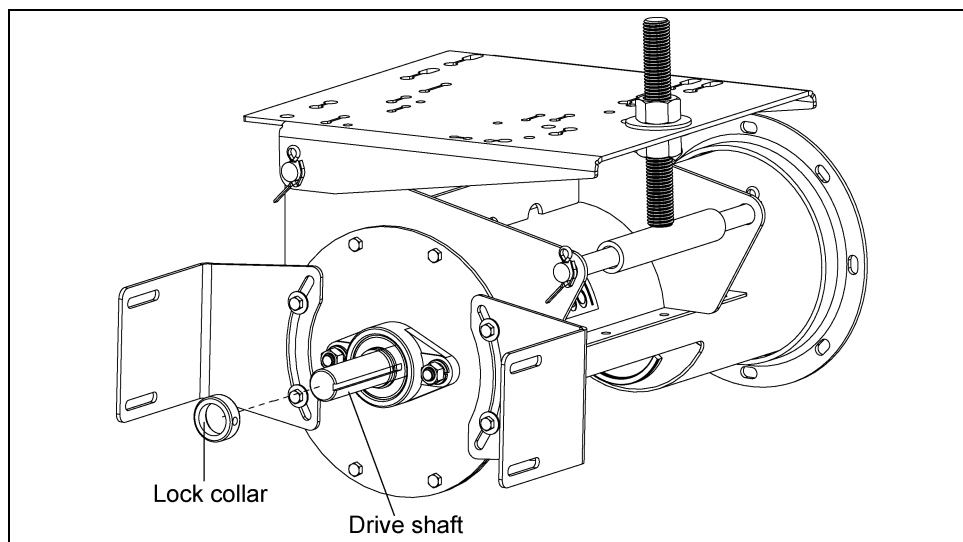

Figure 4J
1. Slide the lock collar over the drive shaft, positioning it against the bearing. Do not tighten the lock collar at this time as it will be tightened later in the assembly. (See Figure 4J.)